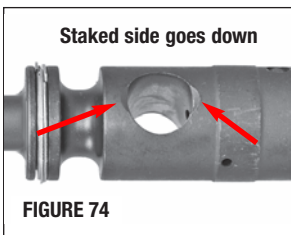

FIGURE 74
- Note that the bolt cam pin only goes in when the bolt is rotated correctly in the carrier with the staked side down (FIGURE 74).